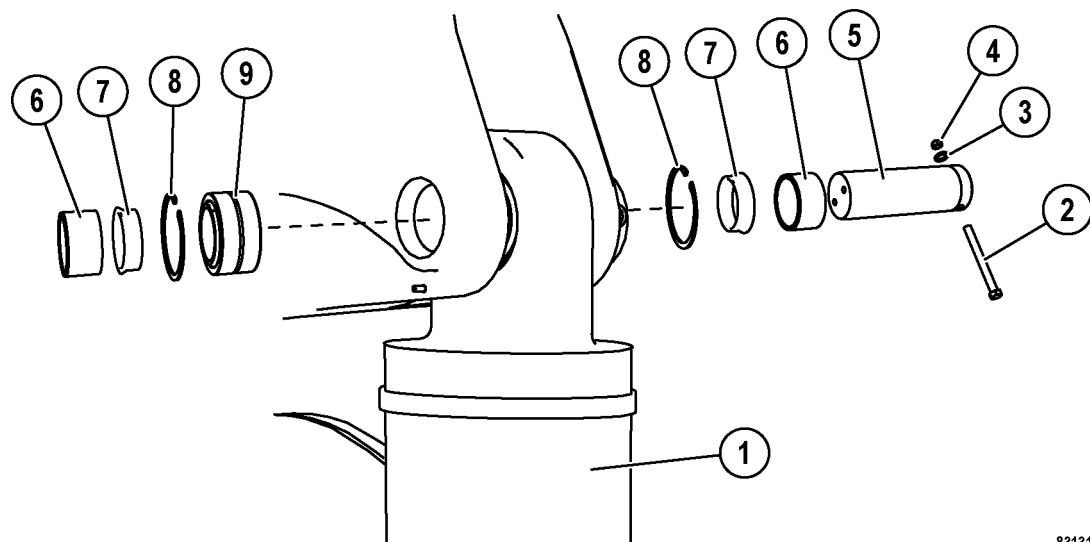

FIGURE 3-4. REAR SUSPENSION CYLINDER PIN INSTALLATION
8. Remove locknut (4, Figure 3-4), flat washer (3) and shoulder bolt (2) from the upper and lower pins on the suspension cylinder to be removed.
14. Remove pin (5, Figure 3-4) from the lower mounting.
**NOTE:** Spacers (7) will fall free.
16. If it is necessary to remove the remaining rear suspension cylinder, insert the pins back into the upper and lower mountings. Secure the pins using shoulder bolts (2), flat washers (3) and locknuts (4), and repeat the removal process for the remaining cylinder.
1. Inspect mounting bore sleeves (6, Figure 3-4) and the bearing spacers for damage and wear. Check the fit of the pins in the bores before installing the suspension. Replace worn or damaged parts.
3. Position the top suspension eye and spherical bearing between the ears on the frame, as shown in Figure 3-4. Orient the cylinder so that the charging valve faces the opposite suspension cylinder, as shown in Figure 3-1.
5. Align the hole in pin (5, Figure 3-4) with the hole in the mounting bore. Drive in the pin far enough to hold the pin in position.
6. Insert bearing spacer (7) and continue to drive in the pin through the spherical bearing. Insert the remaining spacer and continue to drive in the pin until the hole in the axle housing is aligned with the hole in the pin.
7. Install shoulder bolt (2), flat washer (3) and locknut (4). If further alignment of the holes is necessary, install a pin removal tool onto the pin. Use the tool and a large pipe wrench or other suitable device to align the holes. Tighten the locknut to **68 N·m (50 ft lb)**.
3. Remove pressure sensor (15).
4. With the suspension in a vertical position (piston rod down), remove drain plug (18) and drain the suspension oil. A properly charged rear suspension cylinder contains 54.5 L (14.4 gal) of oil.
5. Rotate the cylinder 180°. Remove capscrews (6) and washers (7). Lift piston rod (9) from housing (1).
6. Remove bearing retainer (5) from the piston. Remove bearing (4). Remove the seals, the O-ring and backup ring from bearing retainer (5). Discard the O-ring and backup ring.
7. Remove bearing (3) from the piston.
8. If spherical bearings (9, Figure 3-4) require replacement, remove retaining rings (8) and press the bearing from the cylinder bore.
1. If removed, install spherical bearing (9, Figure 3-4) in the eye of the piston rod and cylinder housing.
2. Install retaining rings (8) to secure the bearings.